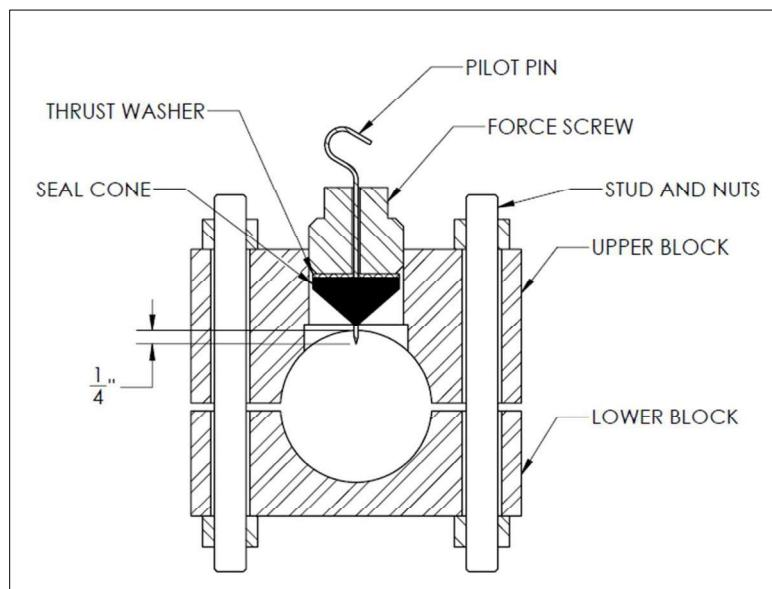

Figure 1
1. Remove the pilot pin point protector and adjust the pilot pin so that it protrudes approximately  $1/4$  inch (6.4 mm) beyond the seal cone. Adjust the force screw until the tip of the seal cone is flush with the inside surface of the PLIDCO Smith+Clamp as shown in Figure 1.